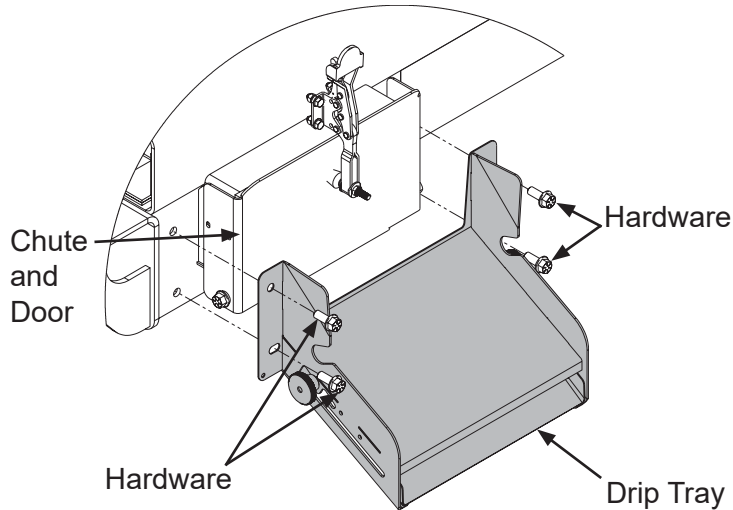

Figure 3
- **IMPORTANT:** If the vehicle is a Volterra® ZSL® side loader, then the drip tray must also be removed (Figure 3). Retain the drip tray and hardware for reinstallation during a later step.